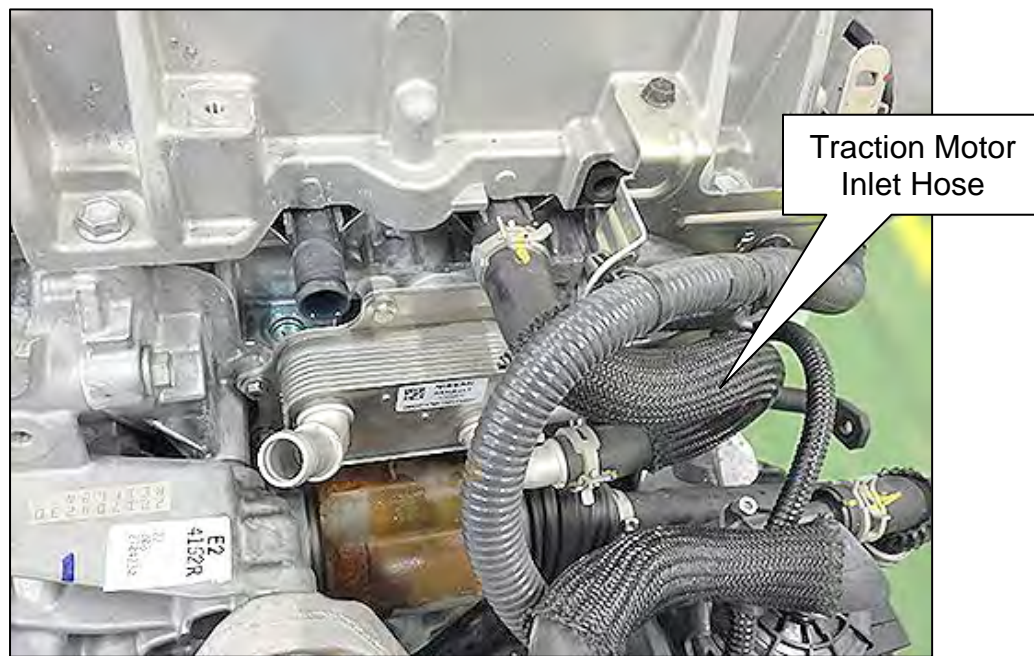

Figure 73
93. Completely remove the Traction Motor Inlet Hose, shown in Figure 73, completely.